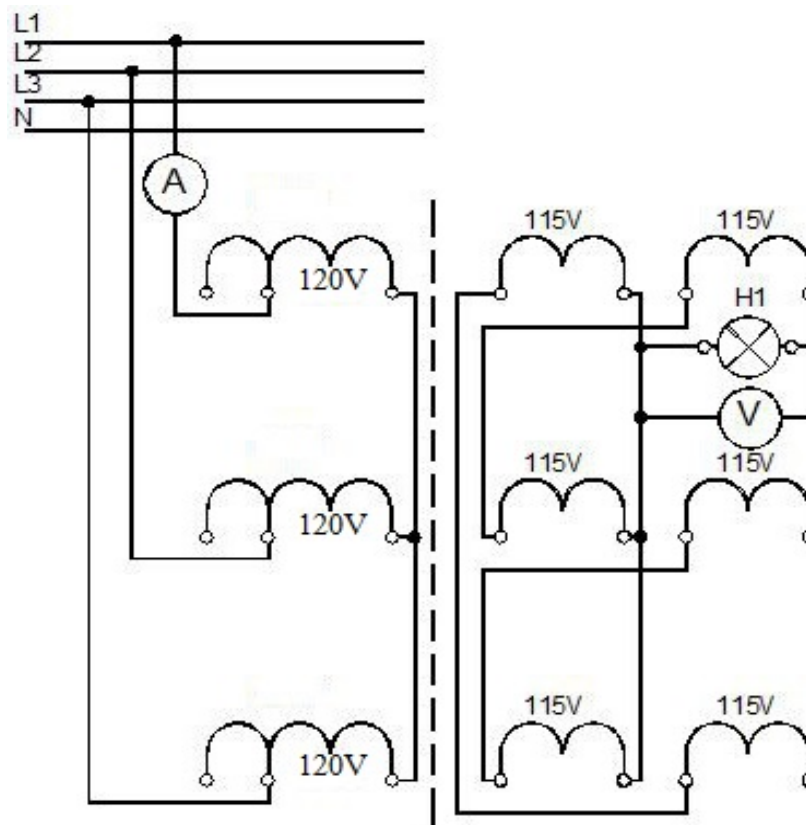

Figure 11:
1. Wire up the circuit in accordance with the set-up and wiring diagram of Figure 11.